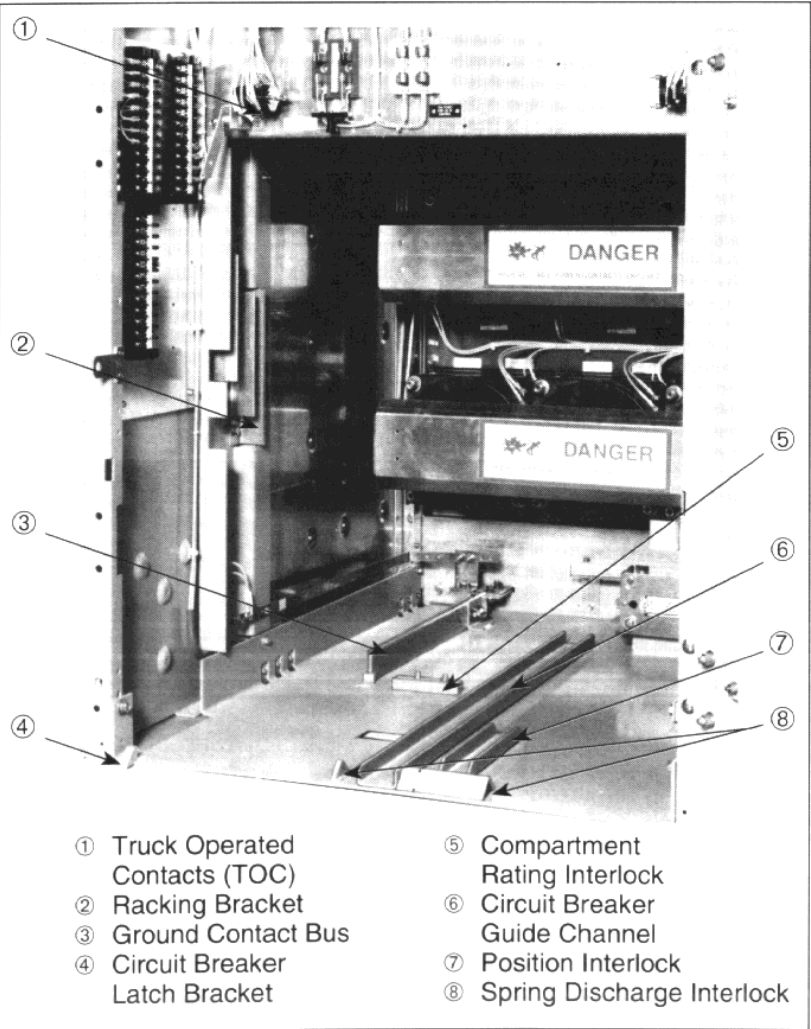
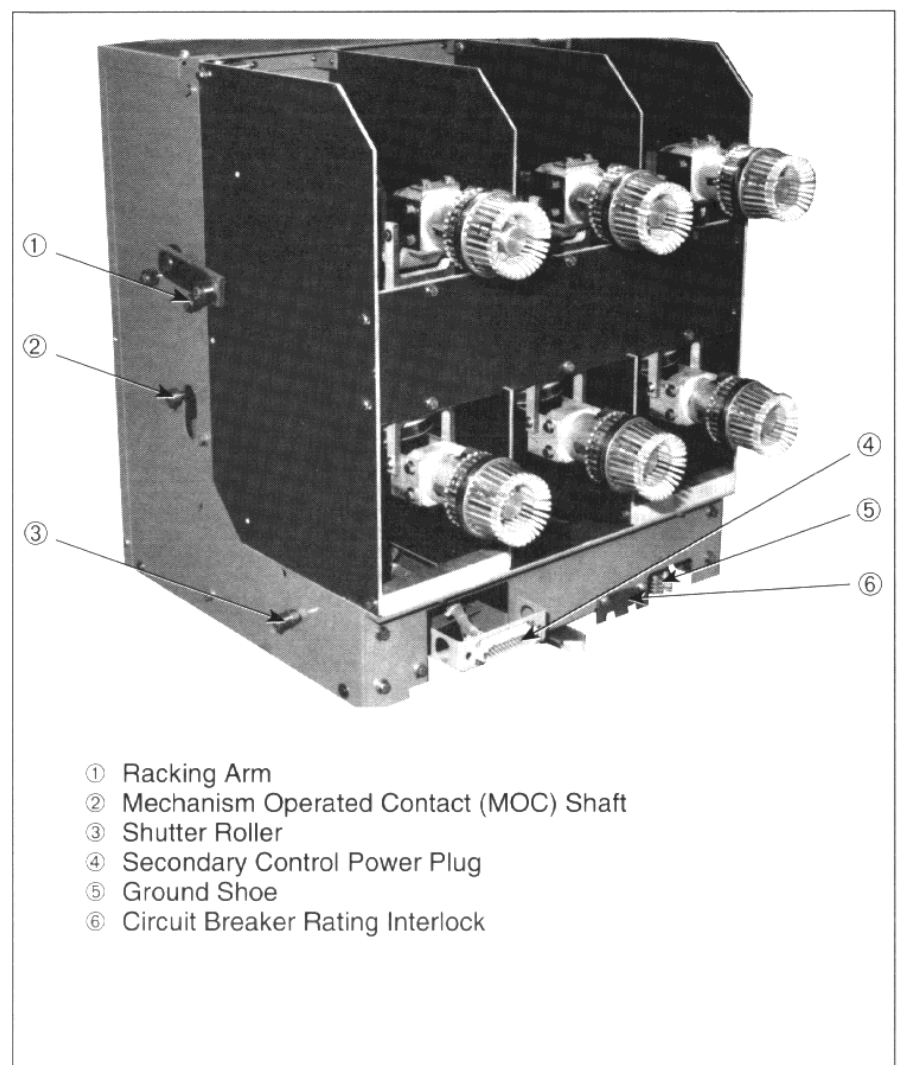

Figure 3: Circuit breaker interlocks
Figure 6: Type VAD-2 vacuum circuit breaker, back
The circuit breaker cell (figures 3 and 4) contains 12 separate but coordinated features, each necessary for the safe operation of the circuit breaker:
Circuit Breaker Guide Channel—The circuit breaker guide channel (figure 3) is a floor-mounted channel running from front to back in the center of the compartment. It is used to align the circuit breaker in the compartment. Mating guides are located on the bottom of the circuit breaker. The circuit breaker guides slide inside the compartment guide channel when the circuit breaker is properly inserted into the compartment.
A position interlock (figure 3, page 6) prevents the circuit breaker from being accidentally closed between the *test/disconnected* and *connected* positions. The interlock cam mechanically operates the circuit breaker trip mechanism between these two positions so the circuit breaker cannot be closed.
The spring discharge interlocks (figure 3) are used to discharge the springs. If the closing springs are charged, and the circuit breaker is inserted into or withdrawn from the compartment, the springs are automatically discharged approximately one inch from the *test/disconnected* position.
Rating Interlocks—Each compartment (figure 3) and circuit breaker (figure 6, page 7) is provided with a set of fixed mechanical interference rating interlocks. These interlocks prevent accidental insertion into the compartment of circuit breakers with incorrect current, voltage, or interrupting ratings.
Ground Contact Bus—A ground contact bus (figure 3, page 6) is located on the bottom of the circuit breaker cell. It connects directly to the main ground. A mating set of sliding contacts is located on the underside of the circuit breaker. The contacts engage before the circuit breaker reaches the *test/disconnected* position and stay continuously grounded up to the *connected* position.
Truck Operated Contacts (TOC)—Optional—Truck operated contacts (figure 3, page 6) indicate the physical position of the circuit breaker in the compartment. They indicate whether the circuit breaker is in the *connected* or *test/disconnected* position.
The circuit breaker and the circuit breaker cell are equipped with an interlock system (figure 3, page 6). The system is activated by cams mounted on the floor of the circuit breaker cell which push operating rods on the circuit breaker. The interlocks provide the following safety features:
- Prevent the circuit breaker from being pushed into the cell when the circuit breaker is closed. Spring discharge cams (spring discharge interlock, figure 3) trip the circuit breaker automatically when the circuit breaker enters the cell.
- Prevent the circuit breaker from being closed while it is moved between the *test/disconnected* and *connected* position. A long cam holds the trip signal on the circuit breaker (position interlock, figure 3).
The circuit breaker secondary control power plug (figure 6, page 7) automatically engages the compartment secondary control power receptacle when in the *connected* position, and disengages as the circuit breaker is racked out to the *test/disconnected* position.